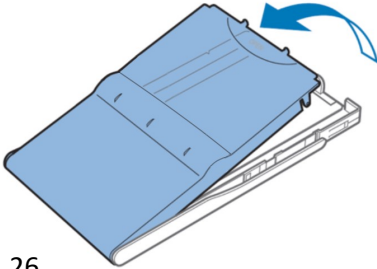

Fig.3.26.
- Remove the service compartment of the robot by pressing the lock lever under the bottom of the back cover and pulling the cover as shown in Figure 3.26.